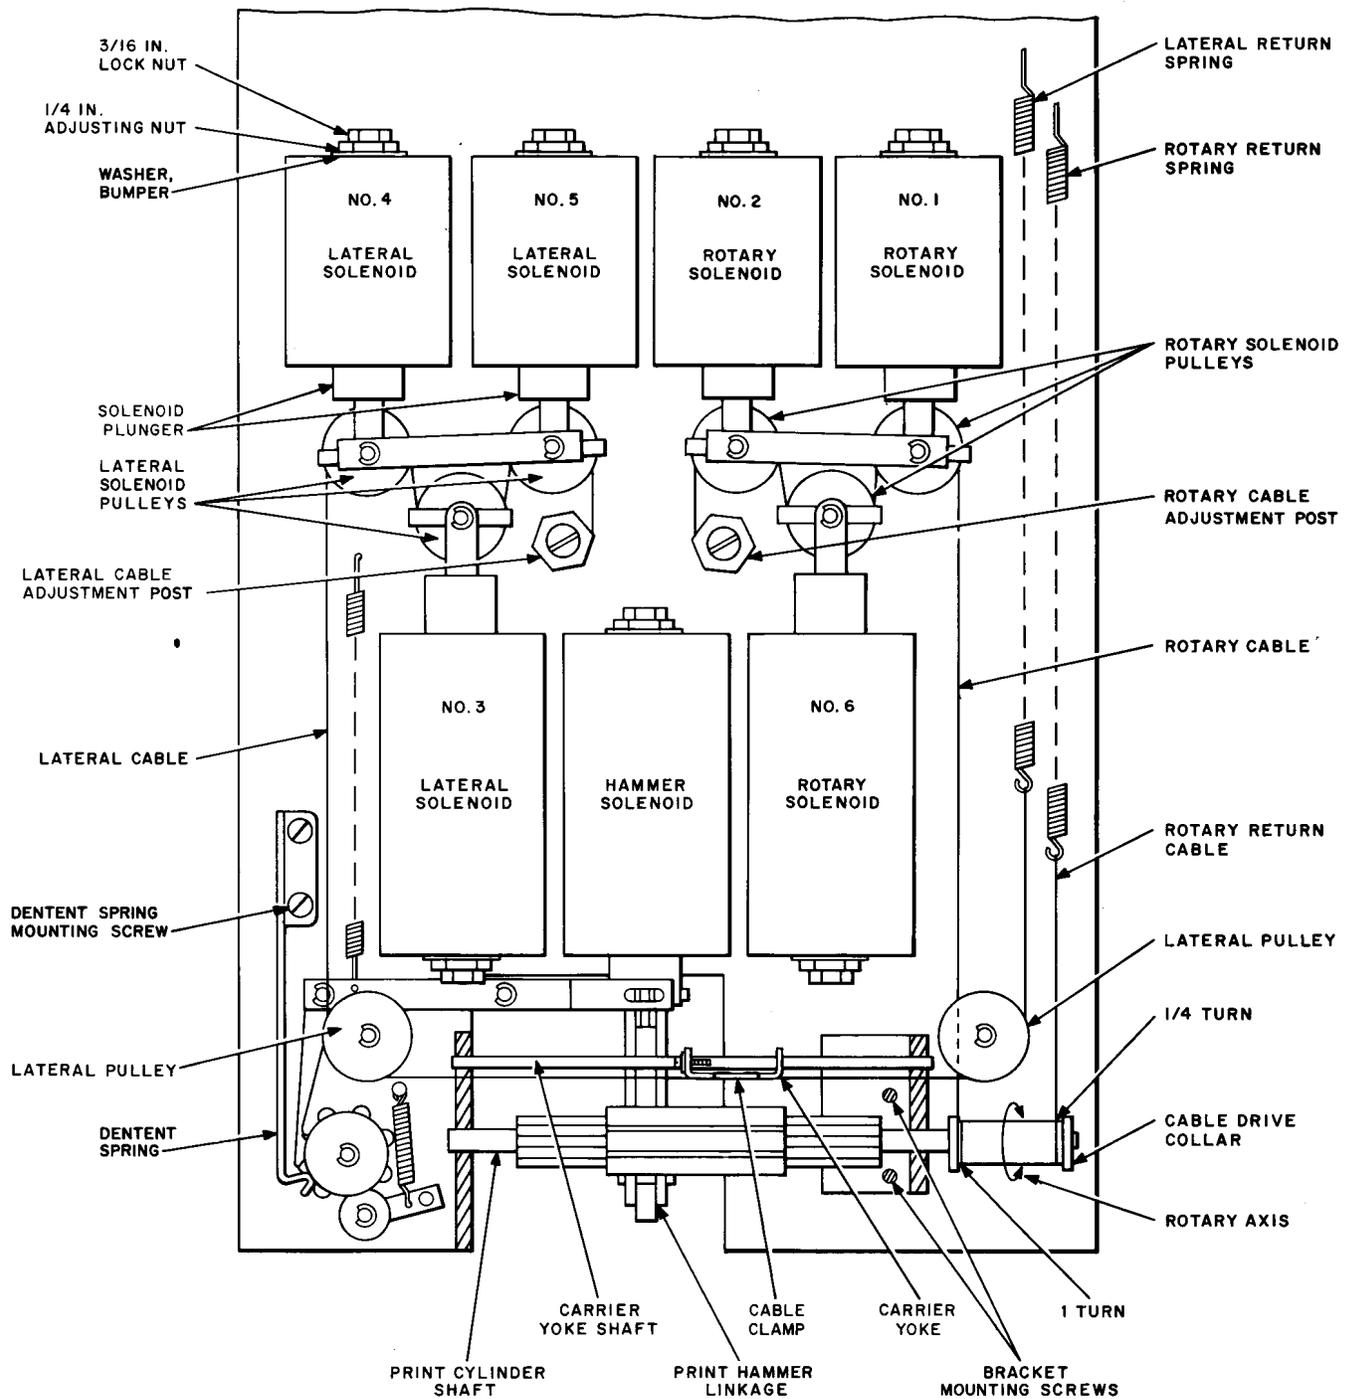

Fig. 2—Functional Diagram of KS-19717 L6 Tape Printer
- Revise Fig. 2 and 3.
3.002 In order to make the adjustments covered herein, remove the tape printer from service. The equipment cover must be removed to gain access to the components. Fig. 2 illustrates the relative position of the components that may require adjustment.